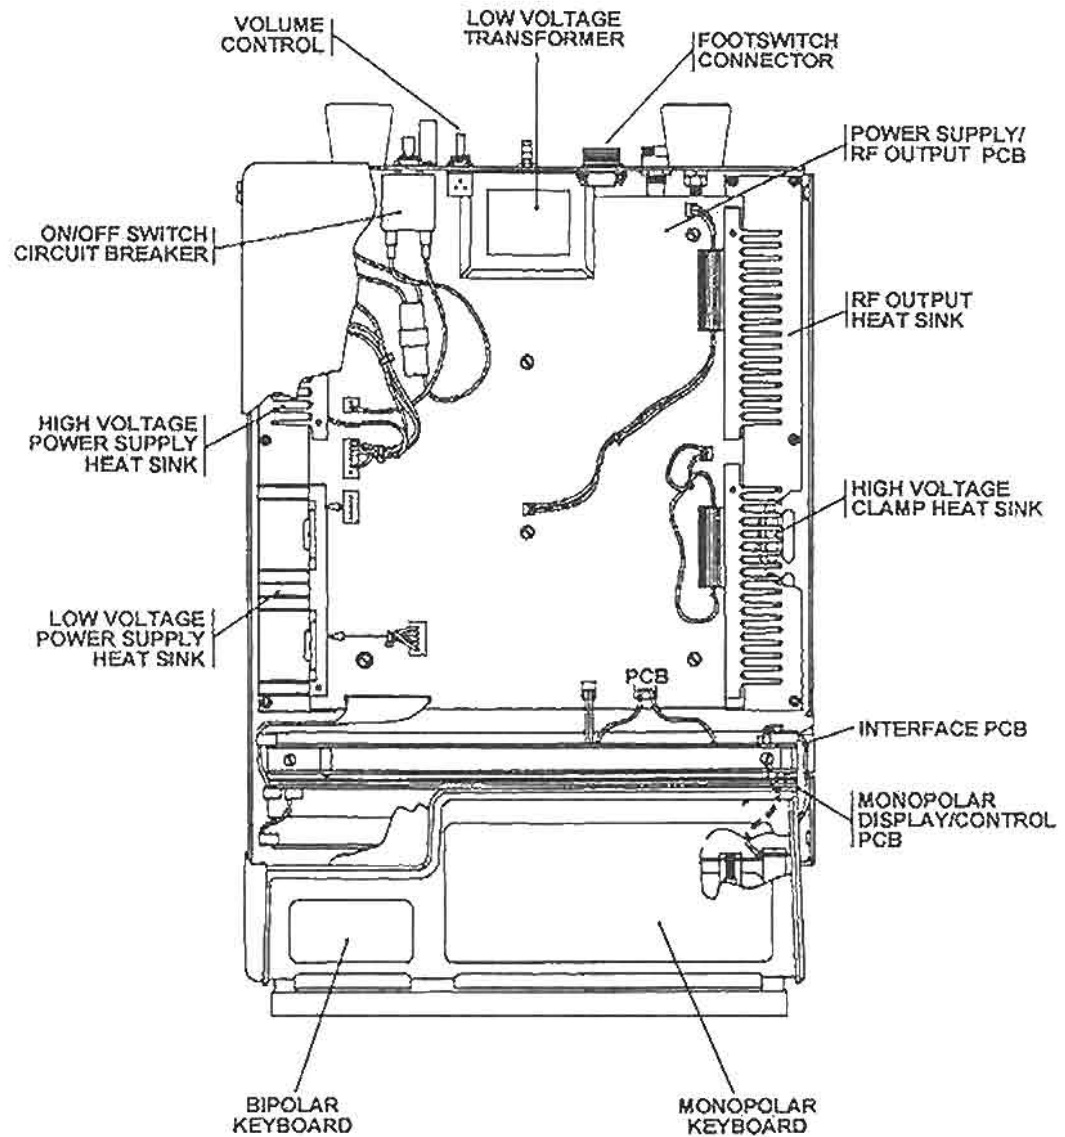

Figure 4-23. Assembly, PCB, and component locations.
- Illustrations showing major assembly, PCB, and component locations are provided in figure 4-23.